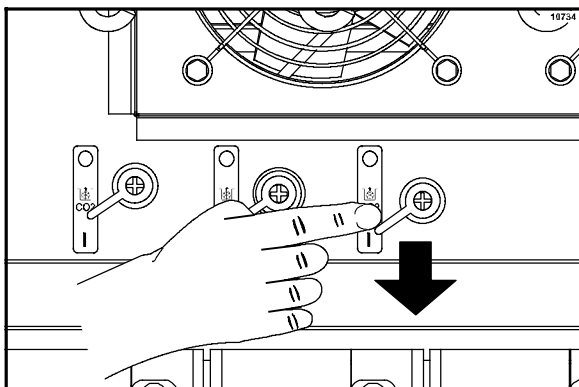

Figure 90
38. Turn the CO2 valves to the “down/on” position to open ALL pumps. (See Figure 90.)